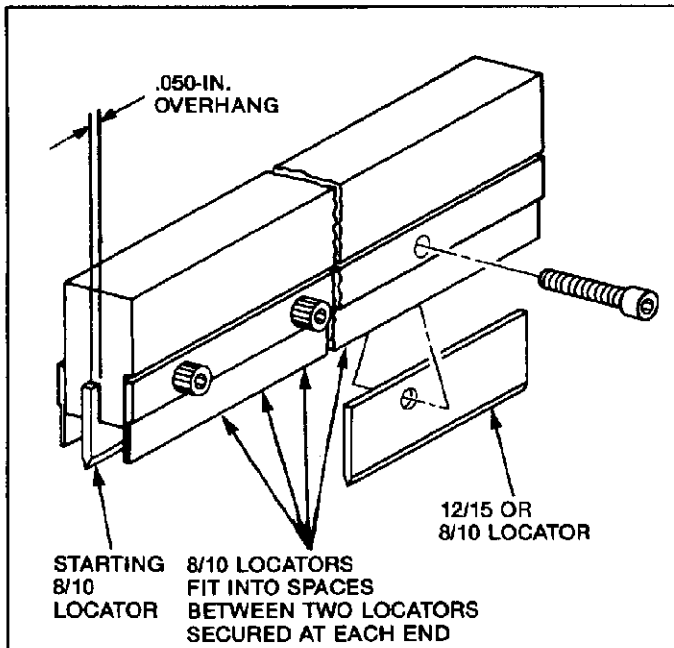

Fig. I-4
4. Fill in the remaining space between the two locators at each end with 8/10 locators. See Figure I-4.